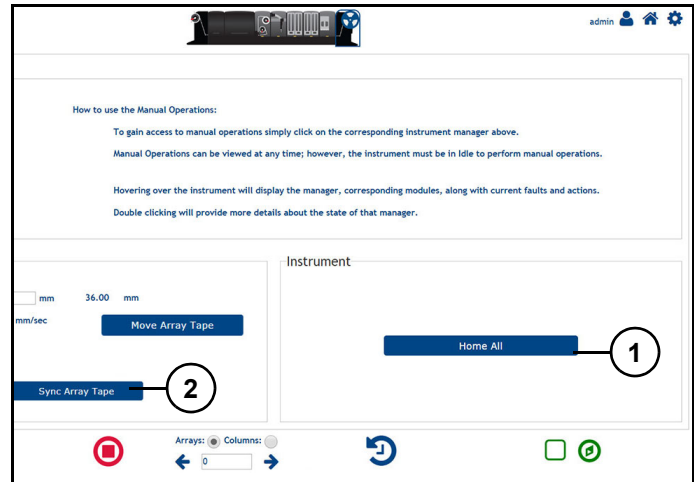

Figure 13
6. Press "Home All" (1) (Figure 13) to home Array Tape.
7. Push and release joystick (1) (Figure 12) towards "FWD" or press "Sync Array Tape" (2) (Figure 13).